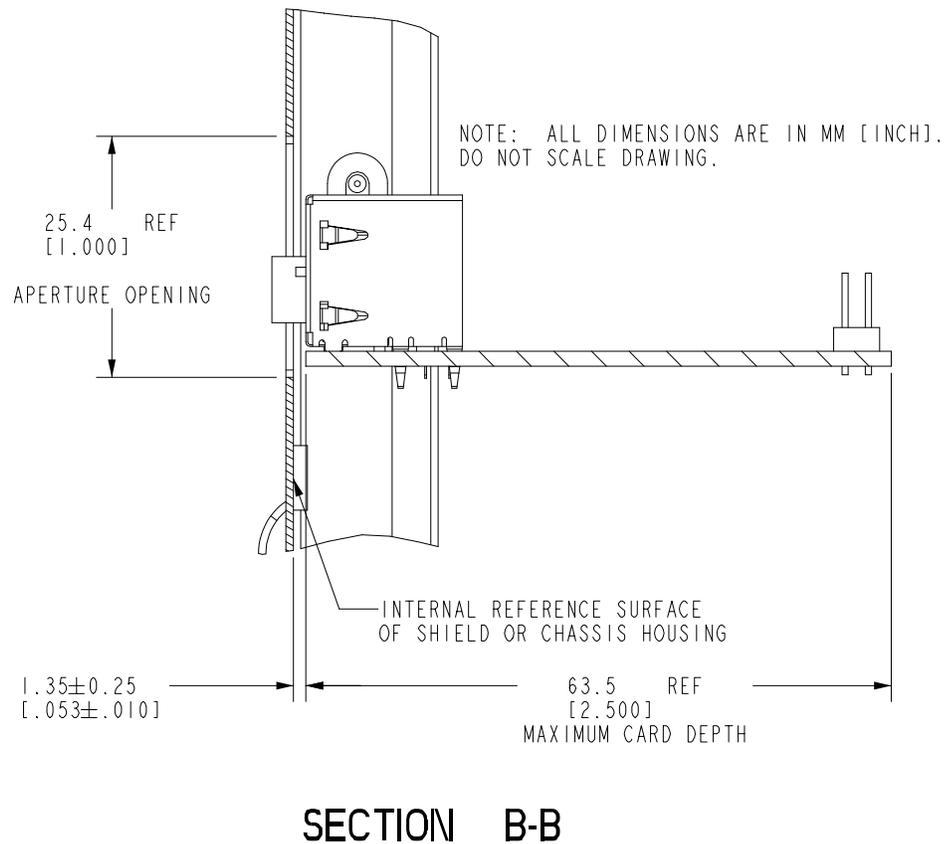
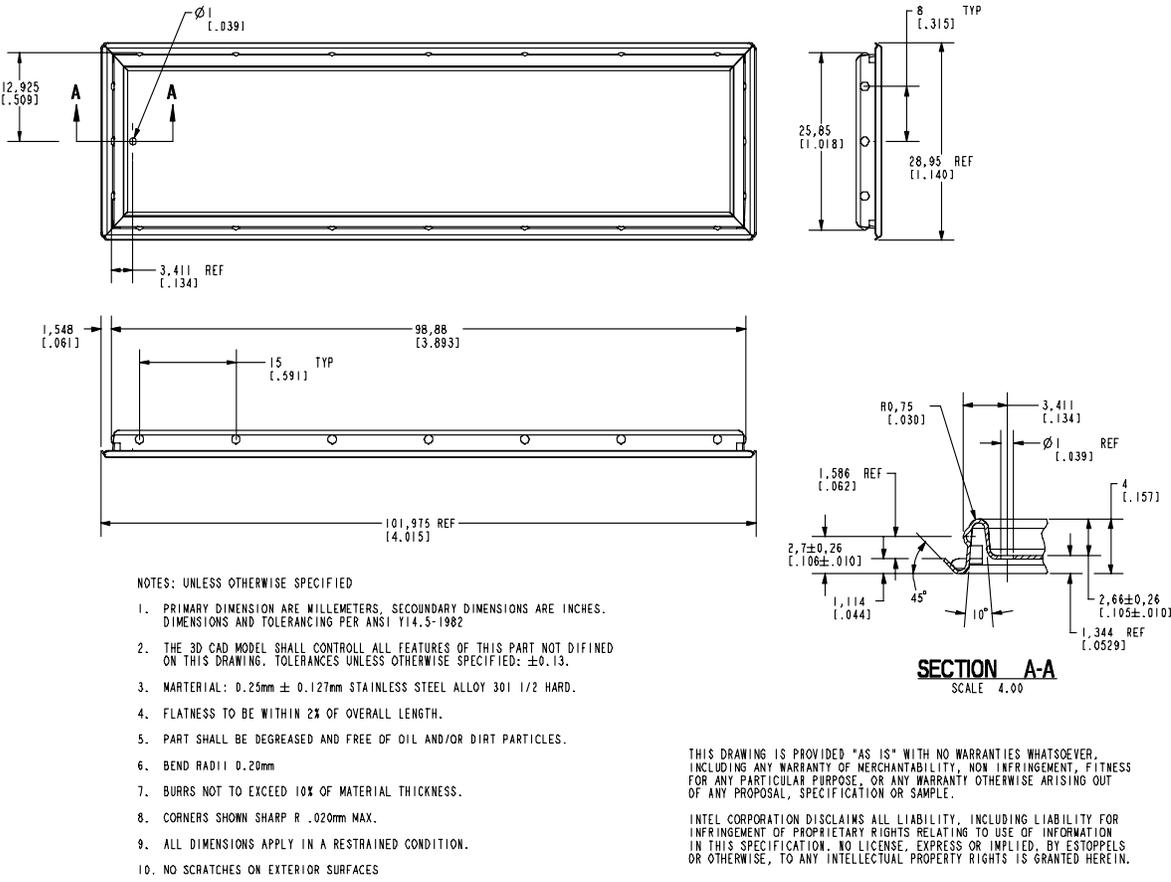

Figure 24. Front Panel I/O Interface Board Placement Recommendations
Figure 30. I/O Shield Reference Design
Figure 24 shows the front panel I/O board interface recommendations. The face of the front panel I/O board edge should be placed  $0.053 \pm 0.010$  inch ( $1.35 \pm 0.25$  mm) from the inside of the chassis front panel I/O shield and/or chassis housing. The connectors shown here are only examples.
No components, connectors or other features should be placed within the keepout zones. The maximum component height on the primary component side of the board (including board thickness) is not to exceed 0.763 inch. (19.37 mm). The maximum component height on the secondary side of the board is not to exceed 0.043 inches (1.09 mm). If the keepout zones are violated, the board forfeits compatibility with the front panel I/O board-compliant chassis as detailed in Figure 23 and Figure 24.
For the best EMI attenuation and proper grounding performance, board connector placement should be limited as shown in Figure 23 and Figure 24 to allow enough clearance between the connectors and the chassis opening for the I/O shield and/or front I/O housing structures. The indented notches provided in the board definition may be used for a screw-less and/or clip retention method.
*Figure 23 and Figure 24 are repeated as Figure 27 and Figure 28 in this chapter for convenience only.*
Figure 30 shows an example of a standard I/O shield reference design. It is provided here as only a reference for key features that may be used to design and secure front panel I/O shields into a standard front panel I/O aperture opening. See Figure 23 and Figure 24 for recommended dimensions of the front panel aperture and interface board placement.